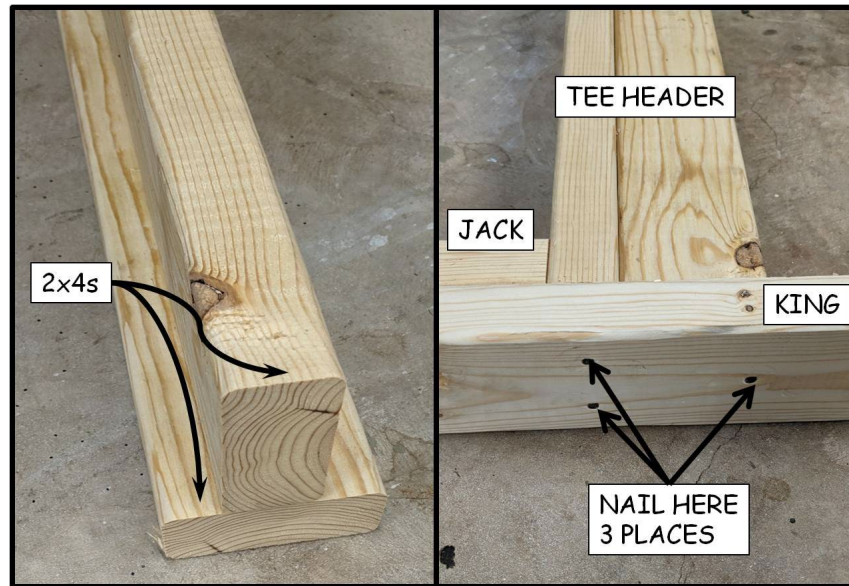

Figure 4-3. T-Header Assembly.
2. From the 2x4 pieces precut in Section 4.1.5, select matching-length header pieces for each interior door. Nail together with 3 $\frac{1}{4}$ " collated nails to create a "T" header (see Figure 4-3).
5. For non-flush sliding doors, identify the appropriate header and place it so the horizontal portion of the “T” header is on top of the Jack studs, tight against the King studs. Nail through the King studs into both ends of the header pieces with 3¼” collated nails - two nails in the horizontal piece and one nail in the vertical piece of the header (see Figure 4-3).
3. Identify the appropriate header and place it so the horizontal portion of the “T” header is on top of the Jack studs, tight against the King studs. Nail through the King studs into both ends of the header pieces with 3¹/₄” collated nails - two nails in the horizontal piece and one nail in the vertical piece of the header (see Figure 4-3).